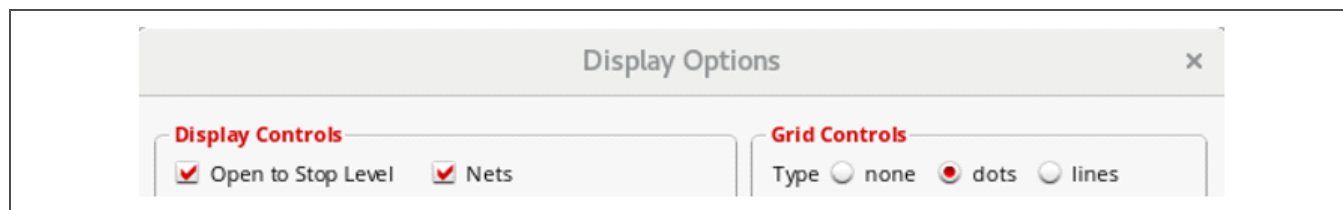

Figure 4-7. VXL Display Options Form
8. To assist with floorplanning, turn on the **Nets** option shown in Figure 4-7 using the **Options > Display** menu command.